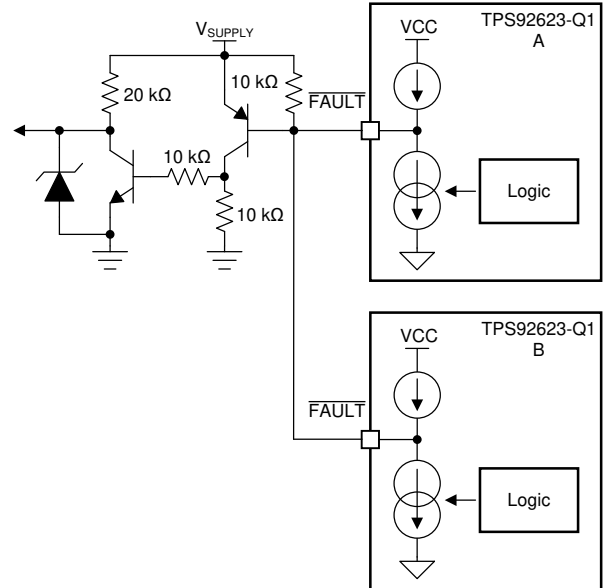

图 7-7. FAULT Bus for One-Fails-Others-On Application
TPS92623-Q1 (B) detects any kind of LED fault and pulls low the  $\overline{\text{FAULT}}$  pin. The low voltage on  $\overline{\text{FAULT}}$  pin is detected by upper side TPS92623-Q1 (A) because the  $\overline{\text{FAULT}}$  pins are connected of two devices. The upper side TPS92623-Q1 (A) turns off all output current for each channel as a result. If the  $\overline{\text{FAULT}}$  pins of each TPS92623-Q1 are all connected to drive the base of an external PNP transistor as illustrated in 图 7-7, the one-fails - all-fail function is disabled and only the faulty channel device is turned off.